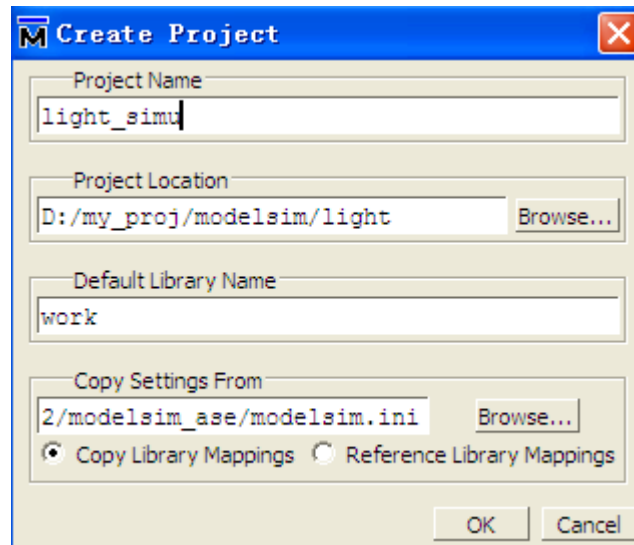

Figure 31.Create Project Window
- a. Select **File > New > Project** (Main window) from the menu bar to get the Create Project window where you can input a Project Name, Project location (directory) and Default Library Name (Figure 31). You can also refer to the library settings from a selected .ini file or add them directly into the project. The default library is located in the path of the project compilation files, and here we usually choose work (default) .